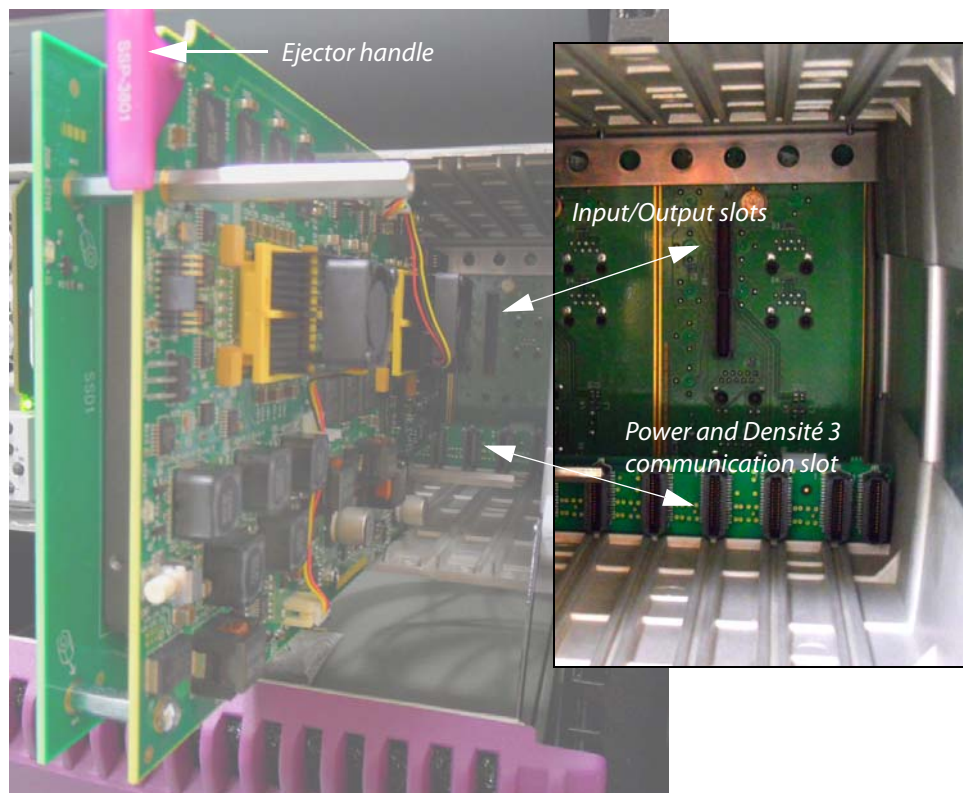

Figure 3-2. Inserting the SSP-3801 card into the Densité 3 frame
- 2 Slide the SSP-3801 card into the slot and push gently on the **Ejector** handle to seat the connectors (figure 3-2).